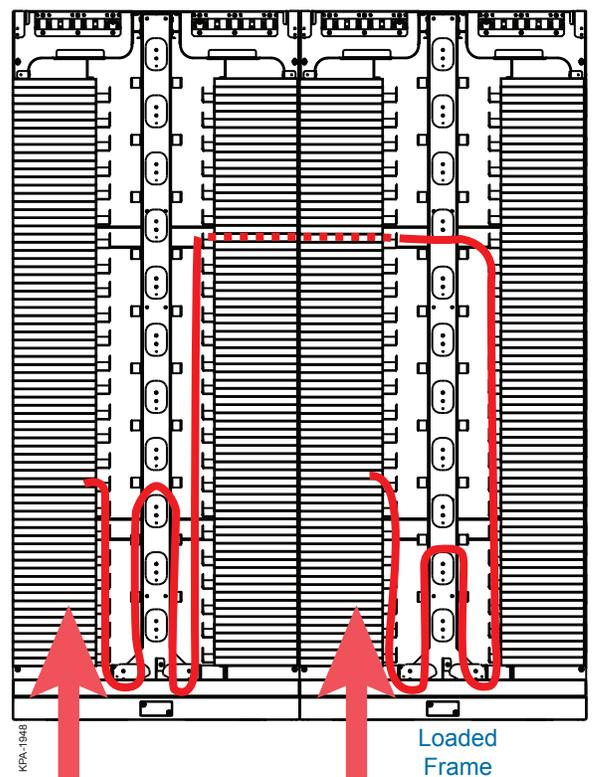

Figure 50
- Step 3:** Connect jumpers to module on most densely loaded frame. Possible connections and suggested routing paths are illustrated in Figure 50.